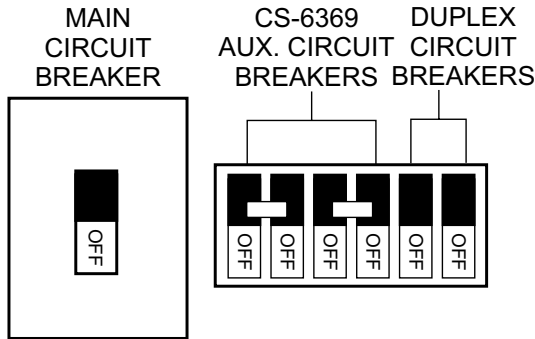

Figure 51. Main, Aux. and Duplex Circuit Breakers (OFF)
1. Place the **Main**, **Aux.** and **Duplex** circuit breakers (Figure 51) in the **OFF** position.